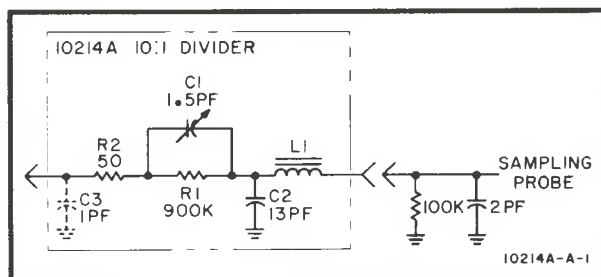

Figure 2. Model 10214A Divider Schematic Diagram
8. The schematic of the Model 10214A is shown in Figure 2. The major components of the divider are resistor R1 and a metal sleeve which is spring loaded to hold R1 in place. The capacitance of C1 is the capacitance between R1 and the metal sleeve; C2 is the capacitance between the metal sleeve and the divider body. The capacitance of C1 determines the high-frequency division ratio of the divider. At low frequencies, the division ratio is accomplished between R1 and the 100k-ohm resistance of the sampling system probe. Resistor R2 and inductor L1 critically damp resonance at the divider input and output. Capacitor C3 represents the stray capacitance present within the assembly.